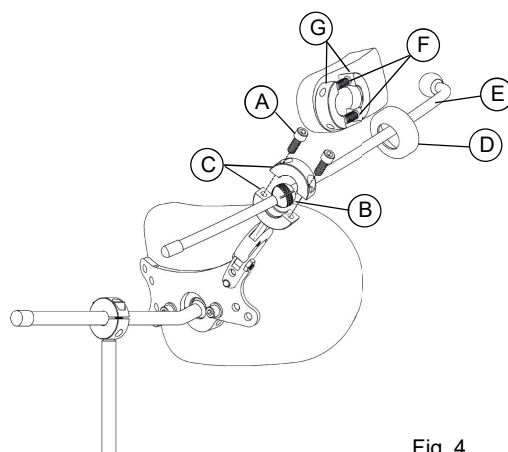

Fig. 4
5. Refer to Fig. 4. Loosen bolts (Fig. 4, A) and clamp splitball (Fig. 4, B) between the lateral mount collar halves (Fig. 4, C) and tighten. Do not securely tighten collar halves until fitting to client to allow for adjustment of ballrod.
6. Slide collar cover (Fig. 4, G) off pad collar onto curved ballrod (Fig. 4, E).
7. Loosen collar bolts (Fig. 4, D). Loosening the collar bolts just to the point where the ball slides in is easier than taking the collar halves completely apart.
8. Clamp collar halves (Fig. 4, H) evenly on ball (Fig. 4, F). See page 13.
9. Slide collar cover (Fig. 4, G) onto collar (Fig. 4, H).
6. Slide collar cover (Fig. 4, D) off pad collar onto curved ballrod (Fig. 4, E).
7. Loosen collar bolts (Fig. 4, F). Loosening the collar bolts just to the point where the ball slides in is easier than taking the collar halves completely apart.
8. Clamp collar halves (Fig. 4, G) evenly on ball. See page 13.
9. Slide collar cover (Fig. 4, D) onto collar (Fig. 4, G).